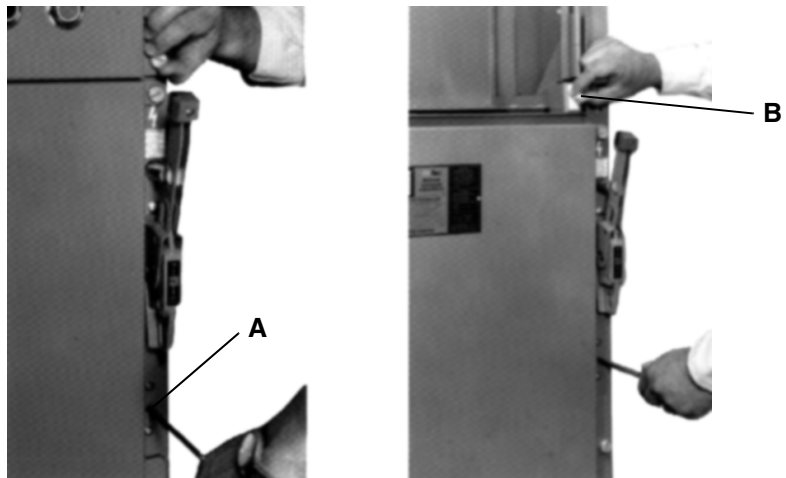

Figure 16 Defeating the Low Voltage Compartment Interlock
1. Insert a small tool through hole (Fig. 16, item A) below the isolation switch handle and depress defeat switch.
2. While holding switch depressed, unlatch and open low voltage compartment door until interlock (Fig. 16, item B) can be operated by pulling plunger to fully extended position. Tool may be removed after activating interlock.